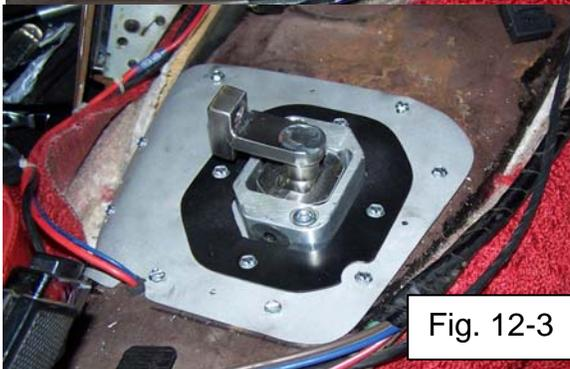

Fig. 12-3
- d. Install seal panel BMG-03003, sandwiching the lip of the body seal between the patch and seal panels, and attach with (4) sheet metal screws. Do NOT overtighten screws. See Fig. 12-3.